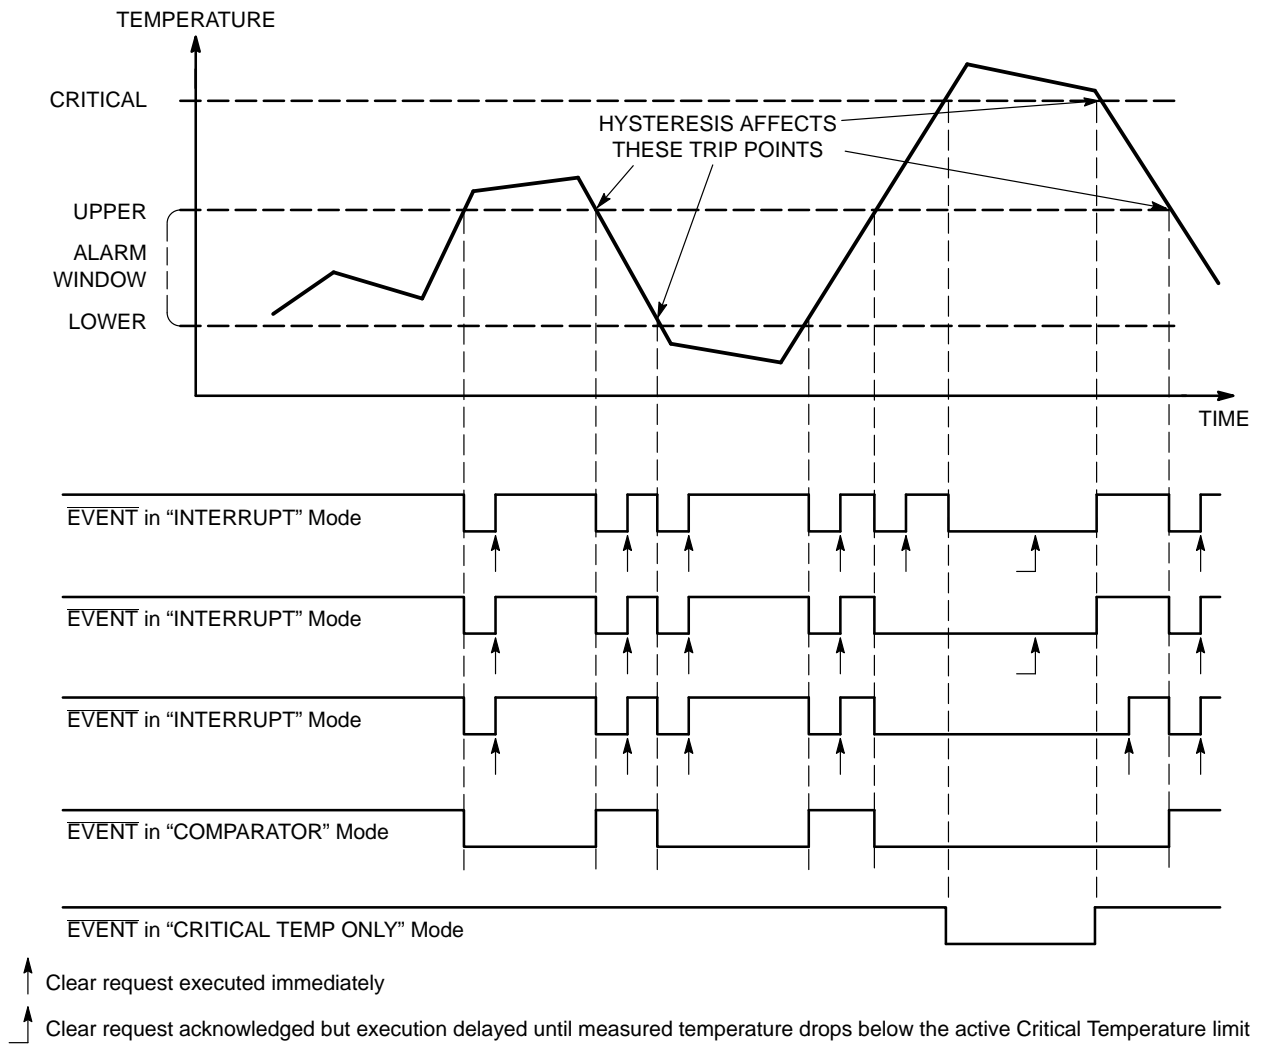

Figure 33. Event Detail
16. Writing a '1' to this bit clears an event condition in Interrupt mode, but has no effect in comparator mode. When read, this bit always returns 0. Once the measured temperature exceeds the critical limit, setting this bit has no effect (see Figure 33).
The $\overline{\text{EVENT}}$ output reacts to temperature changes as illustrated in Figure 33, and according to the operating mode defined by the Configuration register.